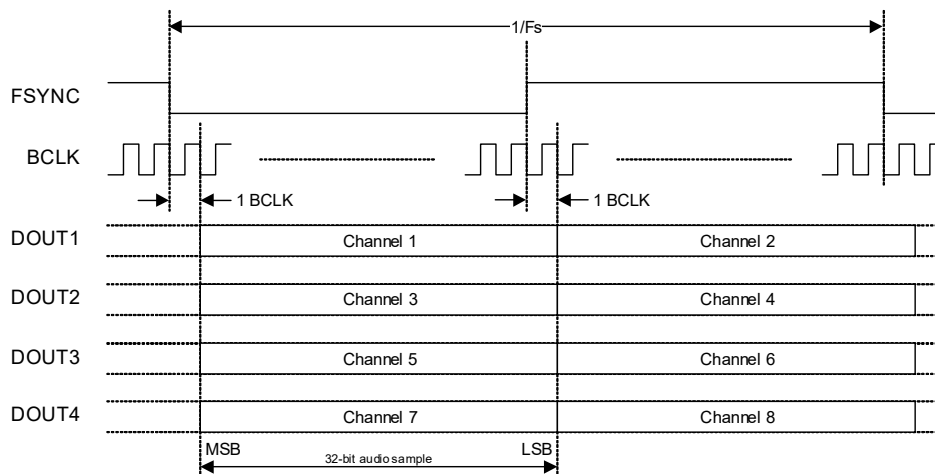
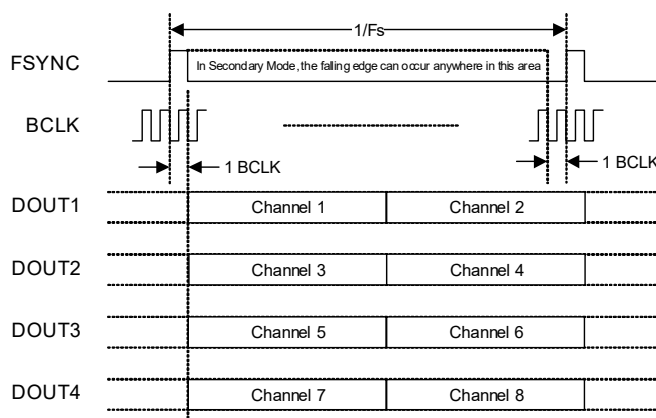

Figure 4-13. I²S Data Format
Figure 4-17. TDM Data Format—4 x DOUT
The ASP data format in I²S, Left-Justified, and TDM interface modes as illustrated in Fig. 4-13 through Fig. 4-17. Refer to Table 4-12 for the applicable definition.
- If I²S data format is selected, the ASP supports audio channels 1–8 as shown in Fig. 4-13. The minimum BCLK rate is 64 fs (where fs is the sample rate). A higher BCLK frequency can be used, resulting in unused BCLK cycles between the LSB of one sample and the MSB of the next.
The 2-slot TDM format is shown in Fig. 4-17.